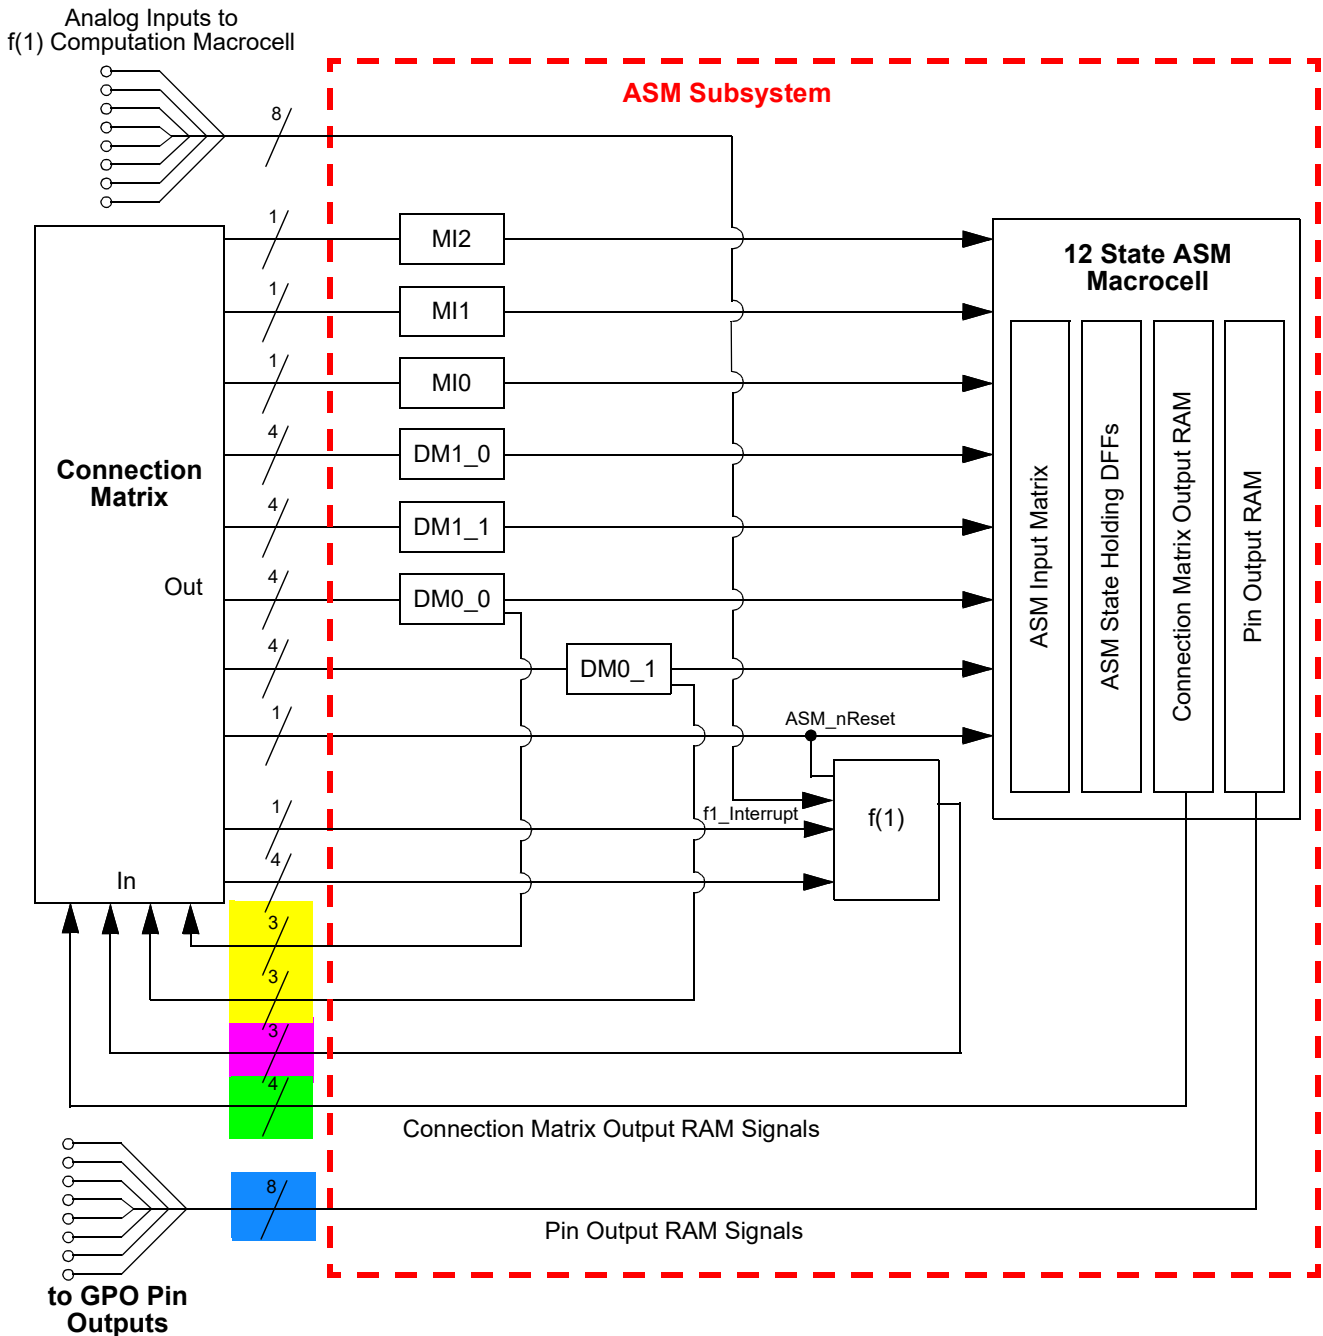

Figure 93: ASM Subsystem Input Signals
The ASM subsystem has a total of 21 output signal lines, as shown in Figure 93.
There are a total of 4 output signals from the ASM macrocell which go to the Connections Matrix inputs and from there can be routed to other internal macrocells or pins. These signals are shown in Figure 93, highlighted in green. The 4 outputs are user defined for each of the possible 12 states. The user selection for the output states is held in the Connection Matrix Output RAM.
There are a total of 8 output signals from the ASM macrocell which go directly to the 8 GPOs. These signals are shown in Figure 93, highlighted in blue. The 8 outputs are user defined for each of the possible 12 states. The user selection for the output states is held in the Pin Output RAM. Each of these GPOs has a single selection bit which defines the GPO input source as either the ASM Output RAM signal or the Connection Matrix signal.
Two of the Dynamic Memory macrocells, DM0_0 and DM0_1, can be used as either a resource for generating input signals for driving state transitions in the ASM macrocell, or to generate signals for use in other parts of the user design. When used to generate signals for purposes other than ASM state transitions, each of these macrocells has three output signals that go to the Connection Matrix, and from there can be routed to other internal macrocells or pins. Each of these macrocells has a total of 3 output signals of this type. These signals are shown in Figure 93, highlighted in yellow.
The f(1) Computation Macrocell has 3 output signals that go to the Connection Matrix, and from there can be routed to other internal macrocells or pins. These signals are shown in Figure 93, highlighted in pink.